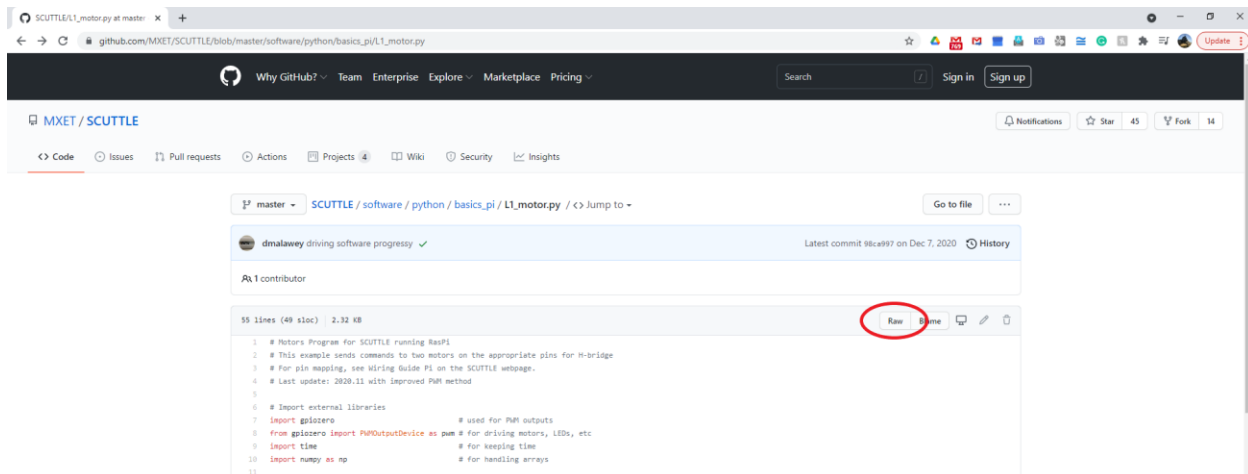

Figure 11
- a. Figure 11 below shows how you can view the raw code, using *L1_motors.py* as an example: